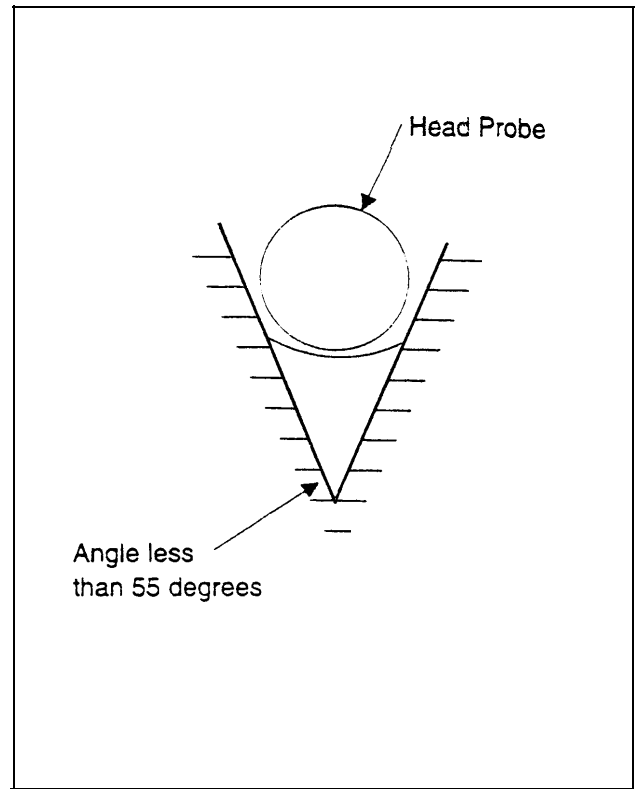

Figure 4-9: Filled apex for angles less than 55 degrees.
(3) *Inspecting an angle with a filled apex.* To measure compliance, the head probe should be inserted between the angle surfaces. If an angle less than 55° is infilled so that the head probe cannot contact both surfaces of the angle simultaneously when the probe is rotated to any orientation, the angle is not considered an entrapment hazard (fig 4-9).